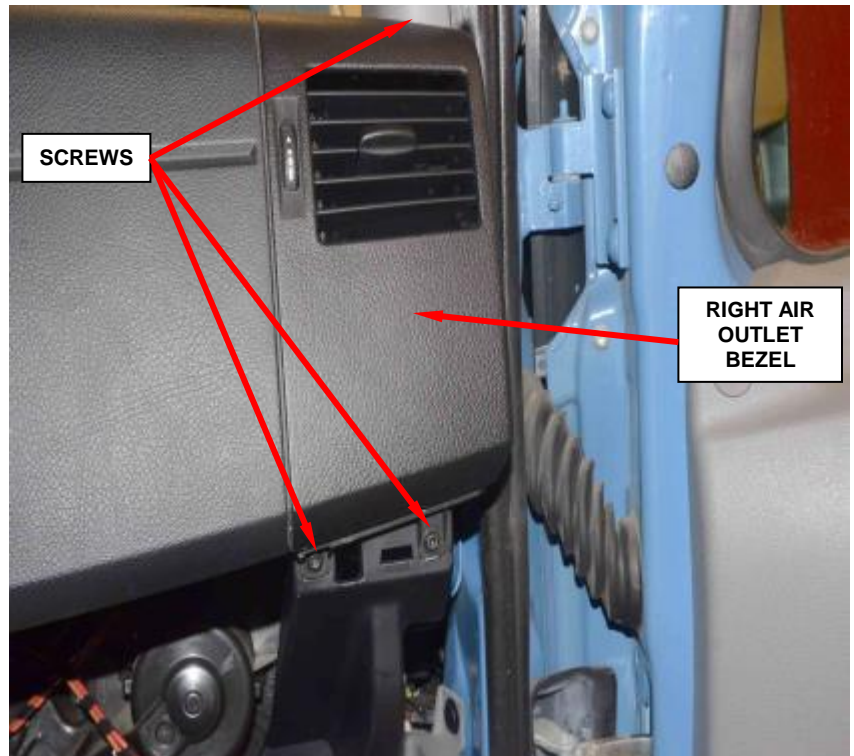

Figure 189 – Right Air Outlet Bezel
10. Remove and save the three right side air outlet bezel screws and remove the right air outlet bezel (Figure 189).